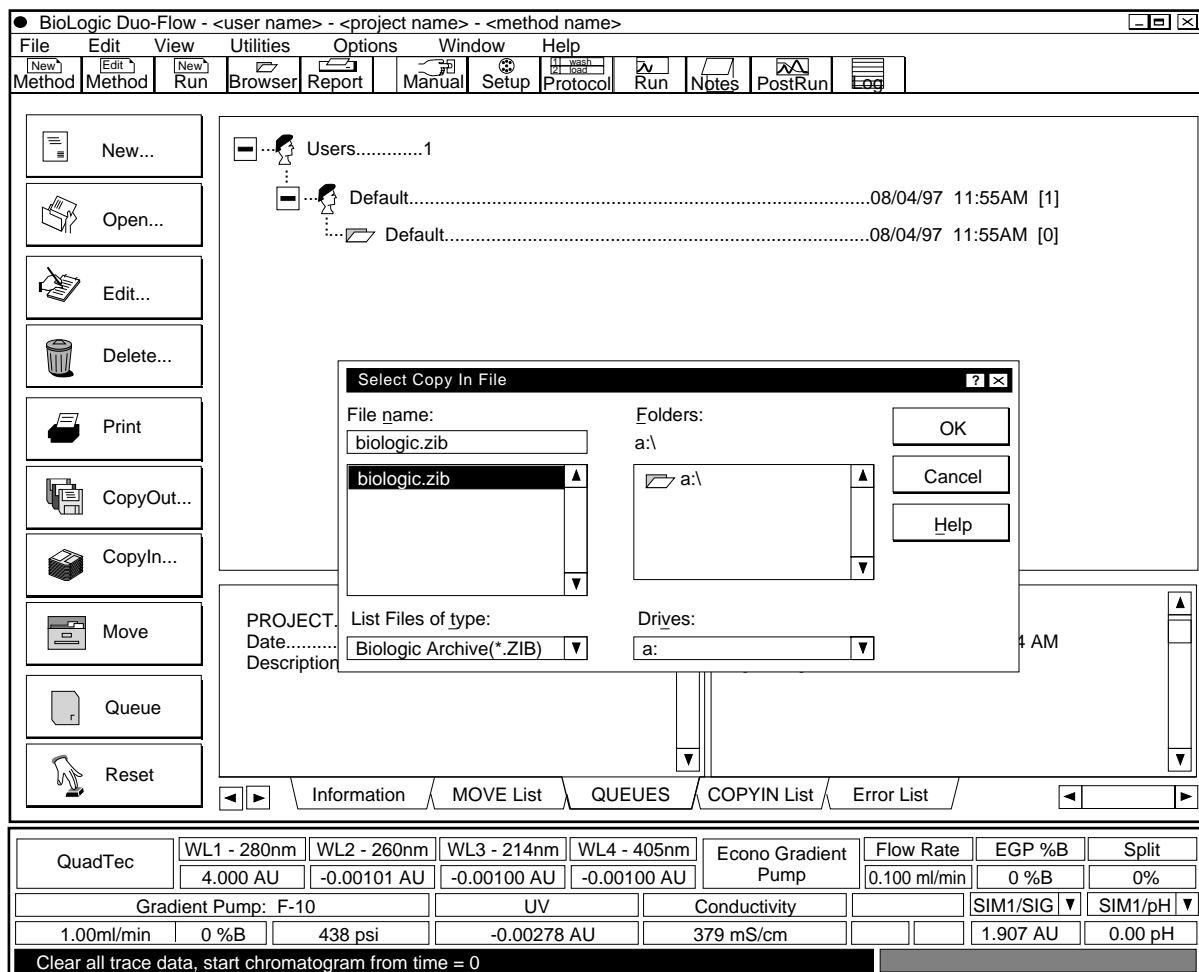

Figure 6-2. The CopyIn Window
- a. Press the **CopyIn...** button and select the .ZIB file you wish to CopyIn. (See Figure 6-2.)